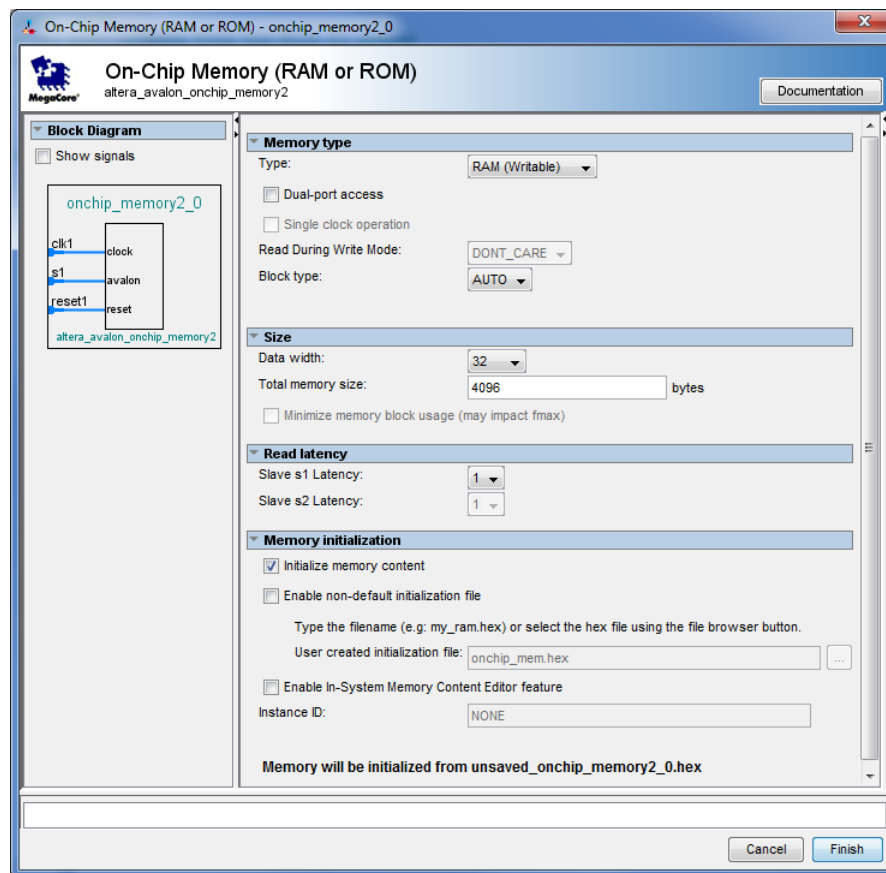

Figure 8. Define the on-chip memory.
- In the On-Chip Memory Configuration Wizard window, shown in Figure 8, ensure that the Data width is set to 32 bits and the Total memory size to 4K bytes (4096 bytes)